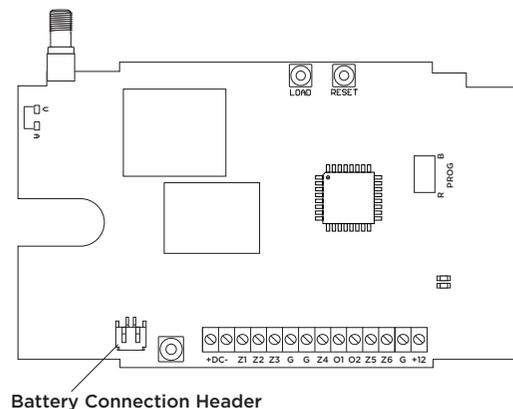

Figure 4: Backup Battery Connection on Panel
3. Connect the **battery lead connector** to the battery connection header on the panel. Refer to Figure 4.